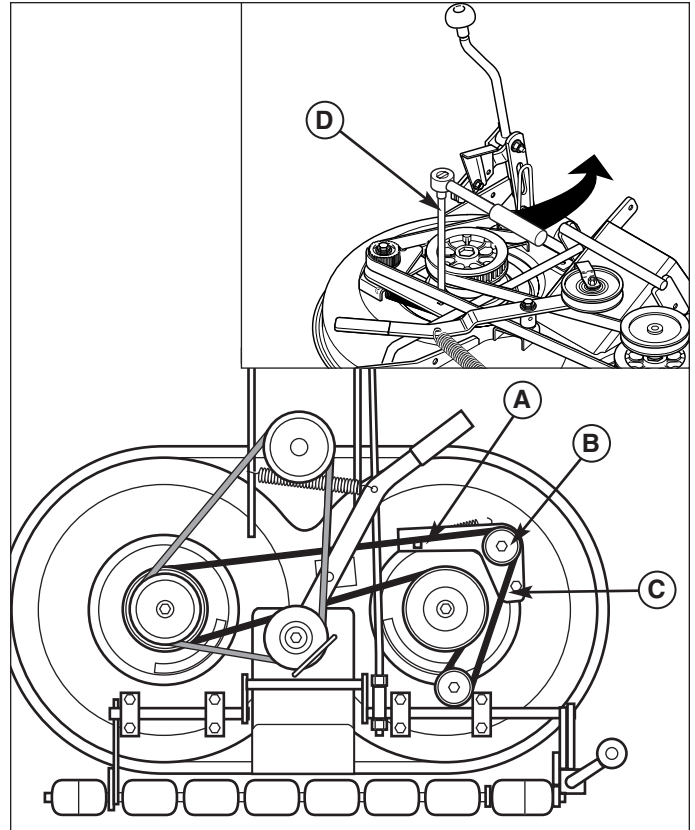

Figure 25. Mower Belt Tension
3. Loosen the idler assembly capscrew (B, Figure 25).
4. Using a 3/8" drive ratchet and extension (D), move the spring-loaded idler assembly (A) to relieve tension on the belt (C).
5. Remove the belt (C) and inspect it for cracks, missing teeth and wear. Replace belt if worn or damaged.
6. Reinstall the belt (C). Releasing the idler assembly (B) allows the spring to automatically tension the caged belt.
7. Tighten the idler assembly capscrew (B) and reinstall the belt covers.